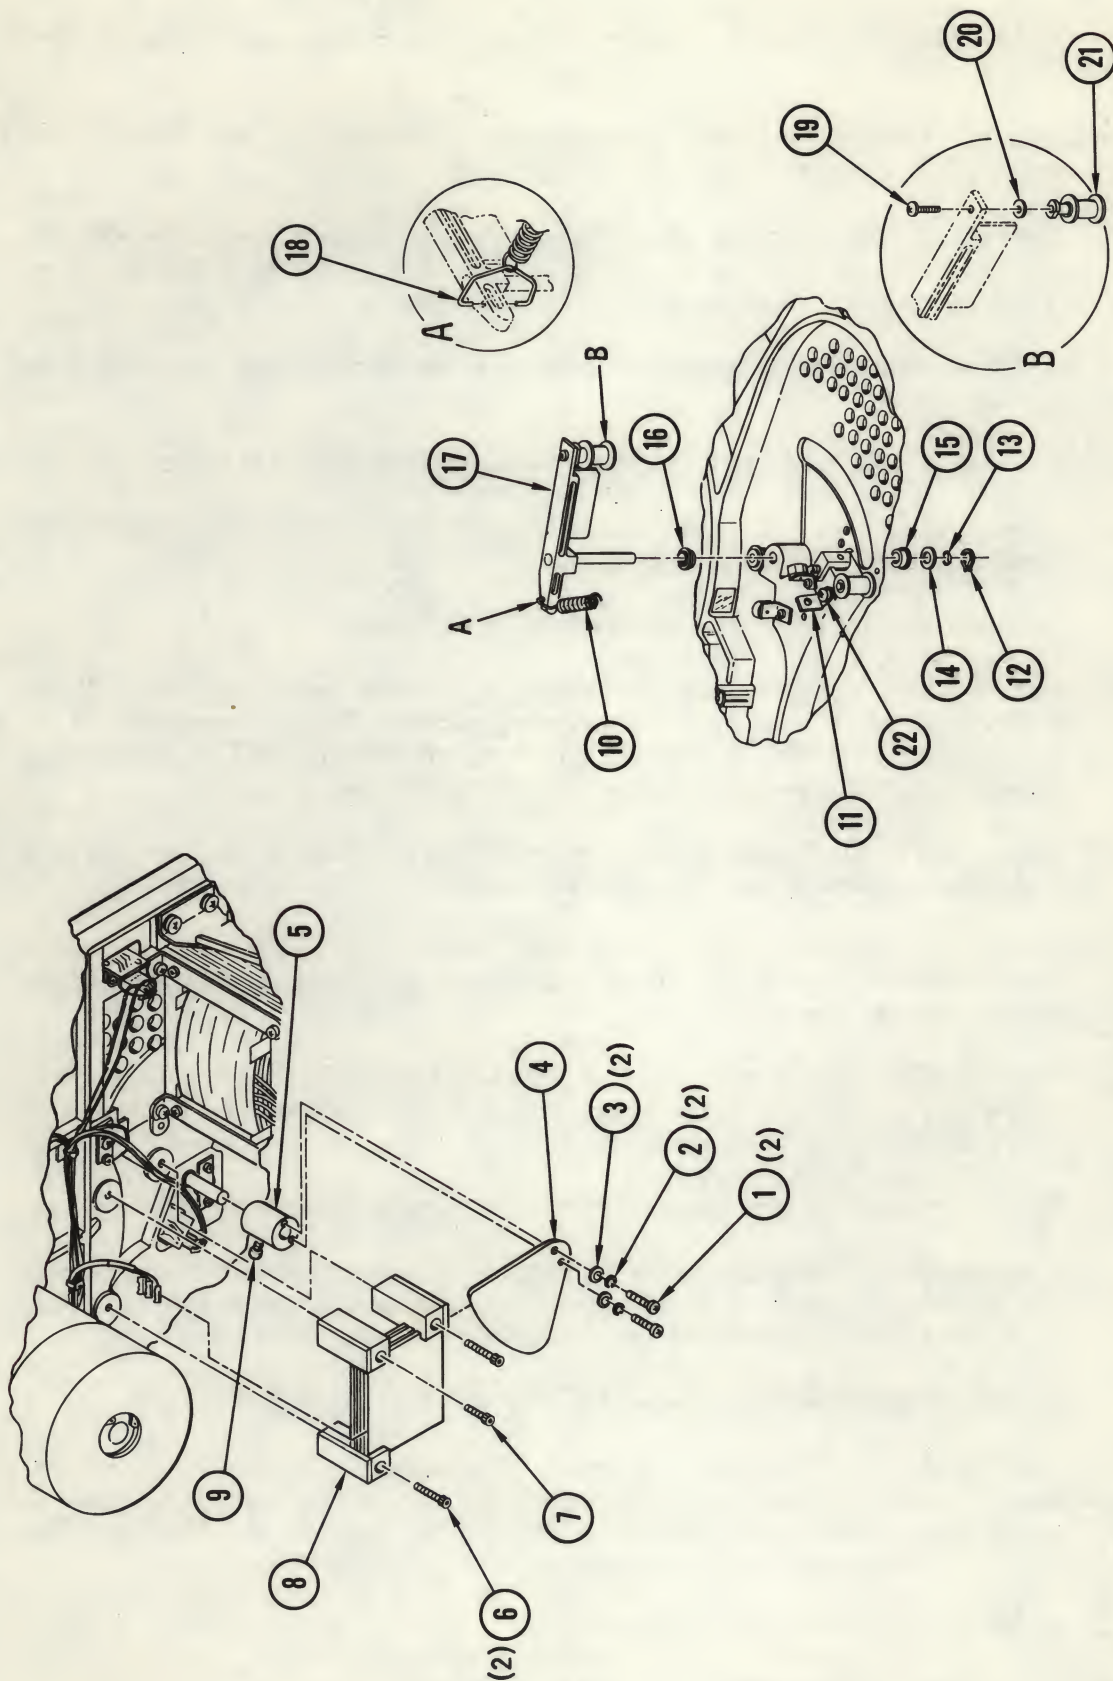

Figure 4-17. Compliance Arm and Air Capacitor Assemblies
4-30. **Removal and Disassembly (Figure 4-17).** Place the transport in service access position in accordance with instructions in paragraph 4-3. Proceed as follows:
- a. Replace defective parts and reassemble compliance arm assembly as shown in Figure 4-17, in reverse order of steps g through i, paragraph 4-30, observing the following special instructions.
- (1) Use attaching parts and shims saved from removal and disassembly as necessary.
- (2) Apply Lubriplate to bearing surfaces between clip (17) and arm (18).
- b. If bearing (15) or (16) was removed, apply small amount of Loctite 601 around outside of bearing and replace.
- d. Install shim (14), wavespring washer (13), and retaining ring (12) on bottom of shaft. Check wavespring washer (13) to see that it is compressed half of its height. If not, add shims (14) as necessary, checking compliance arm for freedom of movement.
- e. Slip hub (5) of capacitor shutter over end of compliance arm shaft, tightening socket head screw (9) just enough to hold hub on shaft.
- f. Mount air capacitor stator (8) to under side of top plate with one screw (1/2 - inch) (7), and two screws (5/8-inch) (6), applying Loctite 242 to screws before insertion.
- g. Slip blade (4) of capacitor shutter between two upper plates of capacitor stator (8), and attach to hub (loosen hub if required) with two screws (1), lockwashers (2), and flatwashers (3).
- i. Loosen hub socket head screw (9) slightly, rotate capacitor shutter blade (4) to within 0.1 inch of power supply housing, and adjust height of hub so that rotor blade does not bind on either plate of capacitor stator (8).